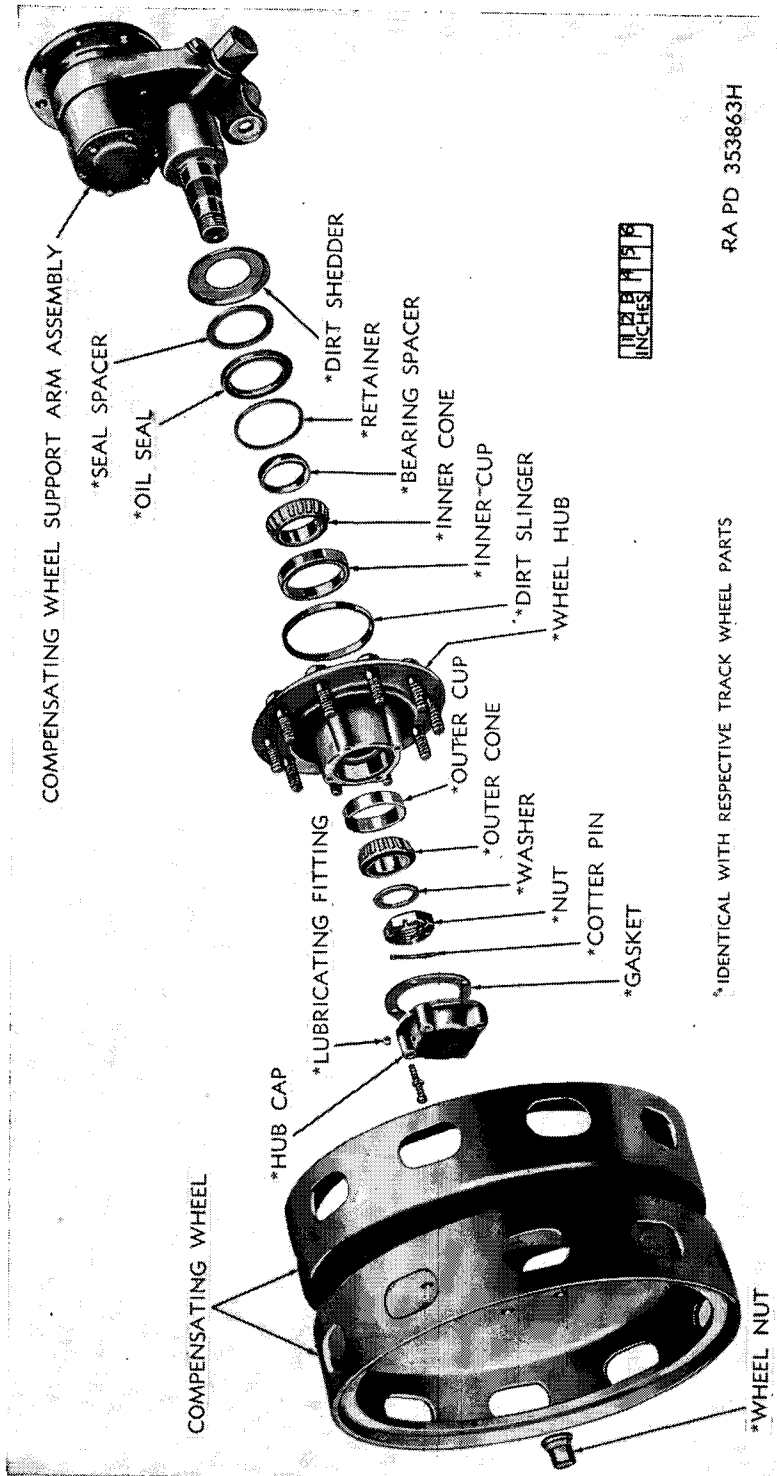
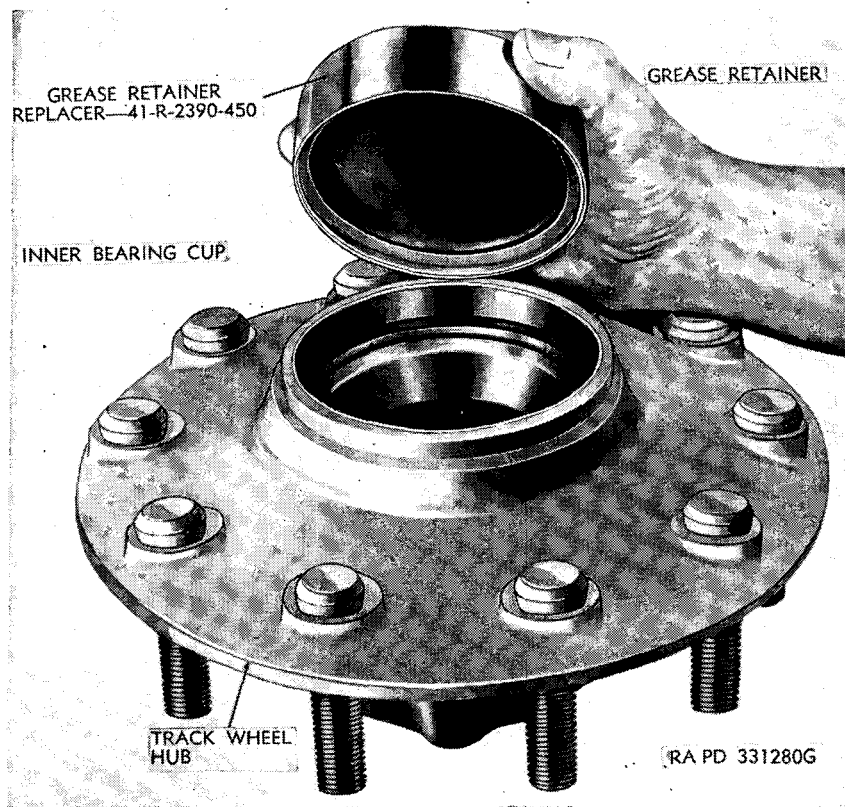
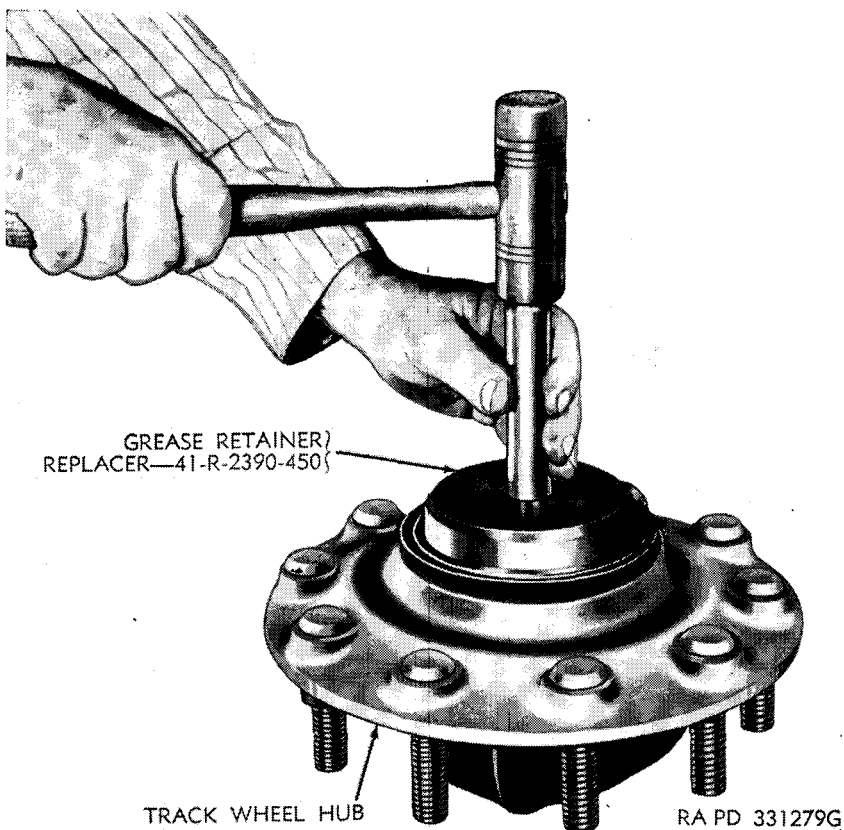

Figure 139. Compensating wheel, hub, and bearings.
Figure 140. Wheel hub grease seal retainer in replacer.
Figure 141. Installing wheel hub grease seal retainer.
b. REMOVAL. Break track at rear of vehicle (par. 172) and pull top half of track forward to clear compensating wheel. Remove 10 nuts and locks holding dual compensating wheel on studs and remove wheels. Remove four hub cap mounting screws and remove hub cap and gasket. Take out cotter pin, nut, and washer holding hub on spindle (fig. 139). Pull out on hub enough to loosen outer bearing. Remove outer bearing. Lift off hub and inner bearing. Pry grease seal off spindle bearing spacer with screwdriver.
c. INSTALLATION. Place new grease seal on spindle with feather-edge toward arm and, using oil seal replacer—41-R-2383-950, tap over bearing spacer until oil seal contacts spacer (fig. 139). Place wheel hub on bench with wheel side down and pry grease retainer out of hub. Place new grease retainer in replacer—41-R-2390-450 (fig. 140) and position replacer on hub. Drive retainer into position carefully to prevent cocking in hub (fig. 141) and remove tool. Check retainer to see that it is square in the hub counterbore and that the flange of retainer is true. Grease inner roller bearing assembly thoroughly with lubricant as prescribed by lubrication order and push on spindle shoulder until bearing contacts spacer. Push hub assembly on spindle, making sure inner bearing enters race in hub. Pack outer roller bearing with prescribed grease, and install on spindle, holding wheel hub centered on spindle and pushing outer bearing into race. Install keyed washer on spindle and seat on bearing. Install nut on spindle.
- (1) Rotate hub and, at the same time, tighten nut to 200 foot-pounds torque. Back off nut until there is no torque, then tighten nut to 75 foot-pounds torque. Back off nut to first cotter pin hole with minimum travel of 15° and install cotter pin. If the first hole is less than 15° travel, back off nut to